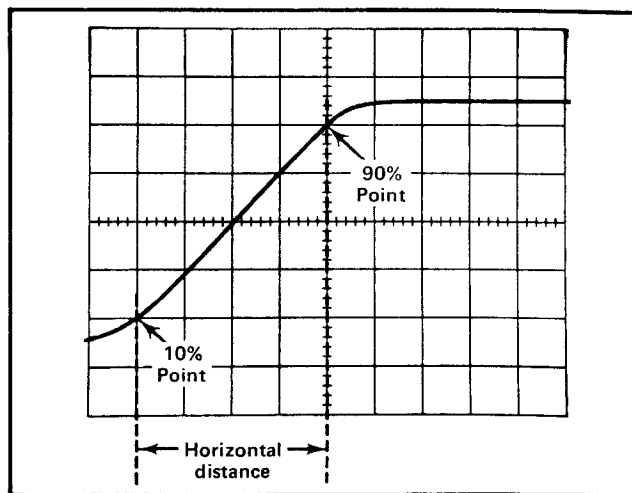

Fig. 2-22. Measuring risetime.
7. Adjust the horizontal POSITION control to move the 10% point of the waveform to the first graticule line. For example, with a five-division display as shown in Fig. 2-22, the 10% point is 0.5 division up from the start of the rising portion.
Example. Assume that the horizontal distance between the 10% and 90% points is four divisions (see Fig. 2-22) and the TIME/DIV switch is set to 1 μs with the MAG switch set to X10. Applying the time duration formula to risetime: